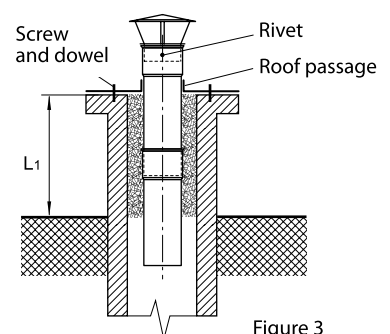

Figure 3
12. Where the ceramic chimney height over the roof exceeds 0.3 m (dimension L1 on figure 3), insulate the pipes of the chimney liner with the use of mineral wool or special insulation sleeves over the section of the chimney end to the level below the roof surface. Provide such insulation also when the chimney passes through „cold”, unheated rooms (e.g. an attic).